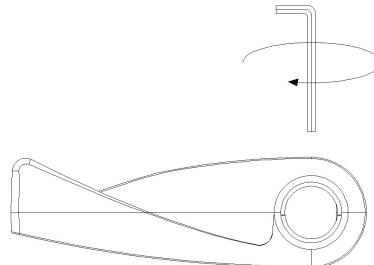

Fig. 7
6. Check that the controller is securely fixed to heating element (Fig.7).